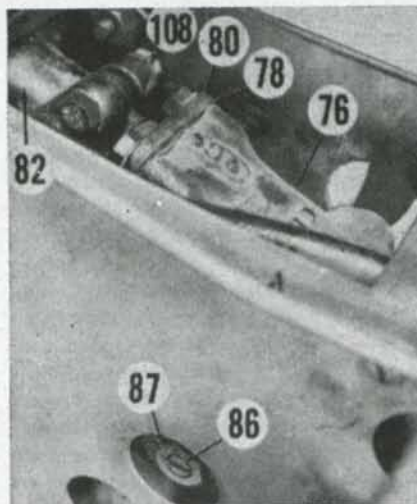

Fig. AC18—Ross steering gear installation on models B, C, and CA. Wormshaft bearings adjustment can be made after removing the fuel tank.
23. STUD (LEVER SHAFT) MESH. On B, C, and CA, it is advisable to remove the starting motor before attempting this adjustment. Locate mid-position of steering gear by turning steering wheel from one extreme position to the other, then back half-way. With gear in mid-position, loosen locknut (87—Fig. AC18 or AC20) and turn adjusting screw (86) clockwise until end play in lever shaft (cross shaft) is